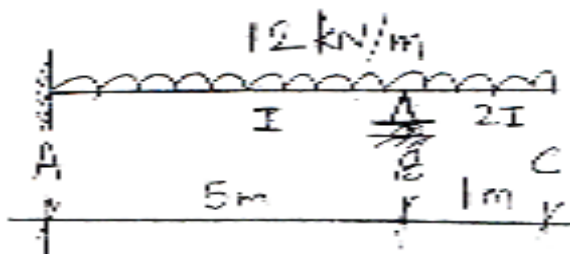

Fig. 13
7. a) Plot BMD for the beam loaded and supported as shown in Fig. 13, using slope deflection method.
- b) Plot BMD for the beam shown in Fig. 13 use moment distribution method